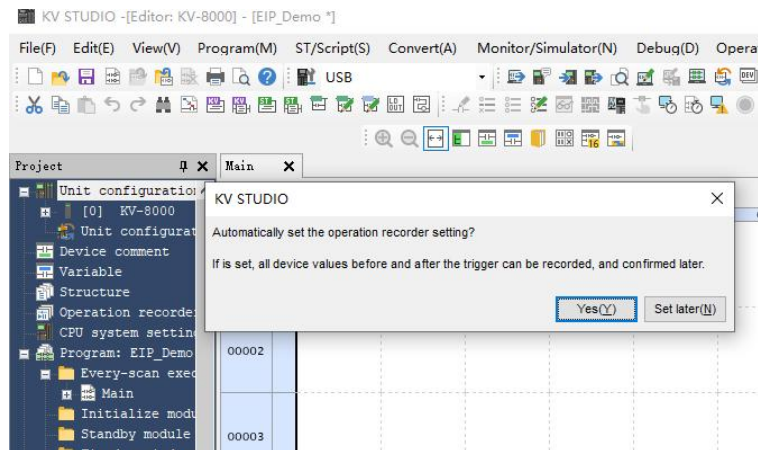
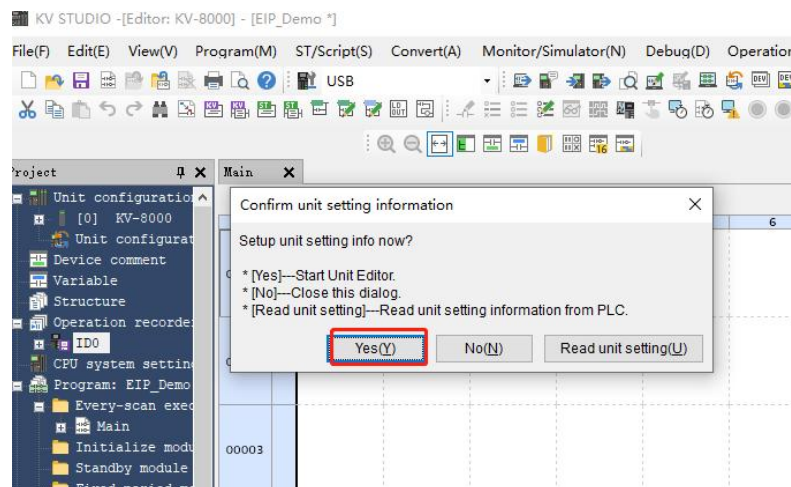

Figure 5-1-3
Figure 5-1-4
- As shown in Figure 5-1-3 and Figure 5-1-4, click “Yes(Y)” in sequence.